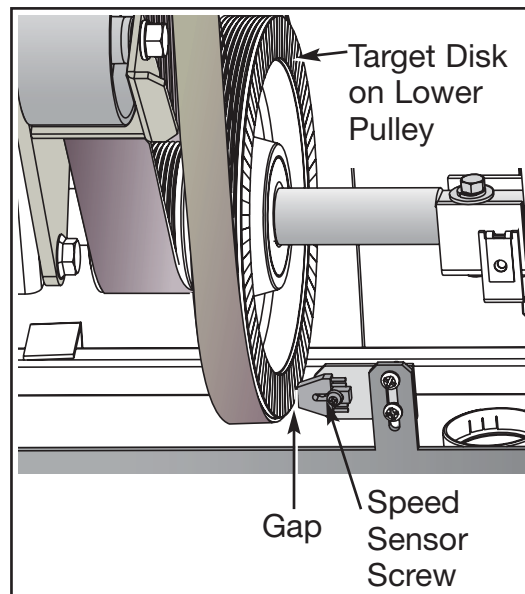

Figure 3
- Turn the lower pulley slowly and look for dirt, scratches or other damage on the target disk. See Figure 3. **NOTE:** *If the target disk or speed sensor is dusty use a soft dry cloth to wipe off the dust. A dirty, scratched or damaged disk may cause Error 3 to occur.*
- Measure the gap between the speed sensor and the lower pulley. It should measure 3/16" (.48 cm) and should be parallel to the lower pulley. See Figure 3.
- A. Using a Phillips head screwdriver, loosen the screw securing the speed sensor in place. See Figure 3. **NOTE:** *Gently bend the side cover to get at the speed sensor screw.*
- B. Adjust the gap between the speed sensor and the lower pulley to 3/16" (.48 cm) and tighten the screw. See Figure 3.